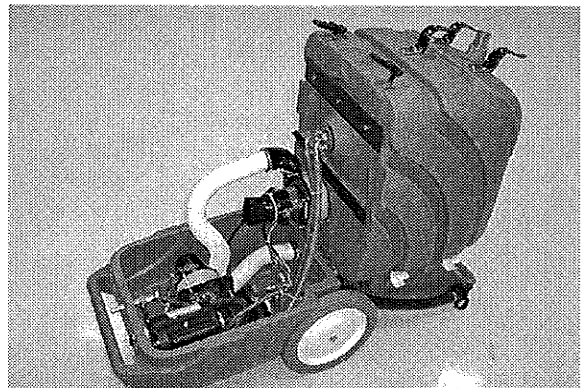

FIG. 46
3. Unlatch two latches at front of machine and carefully hinge machine open (Figure 46).